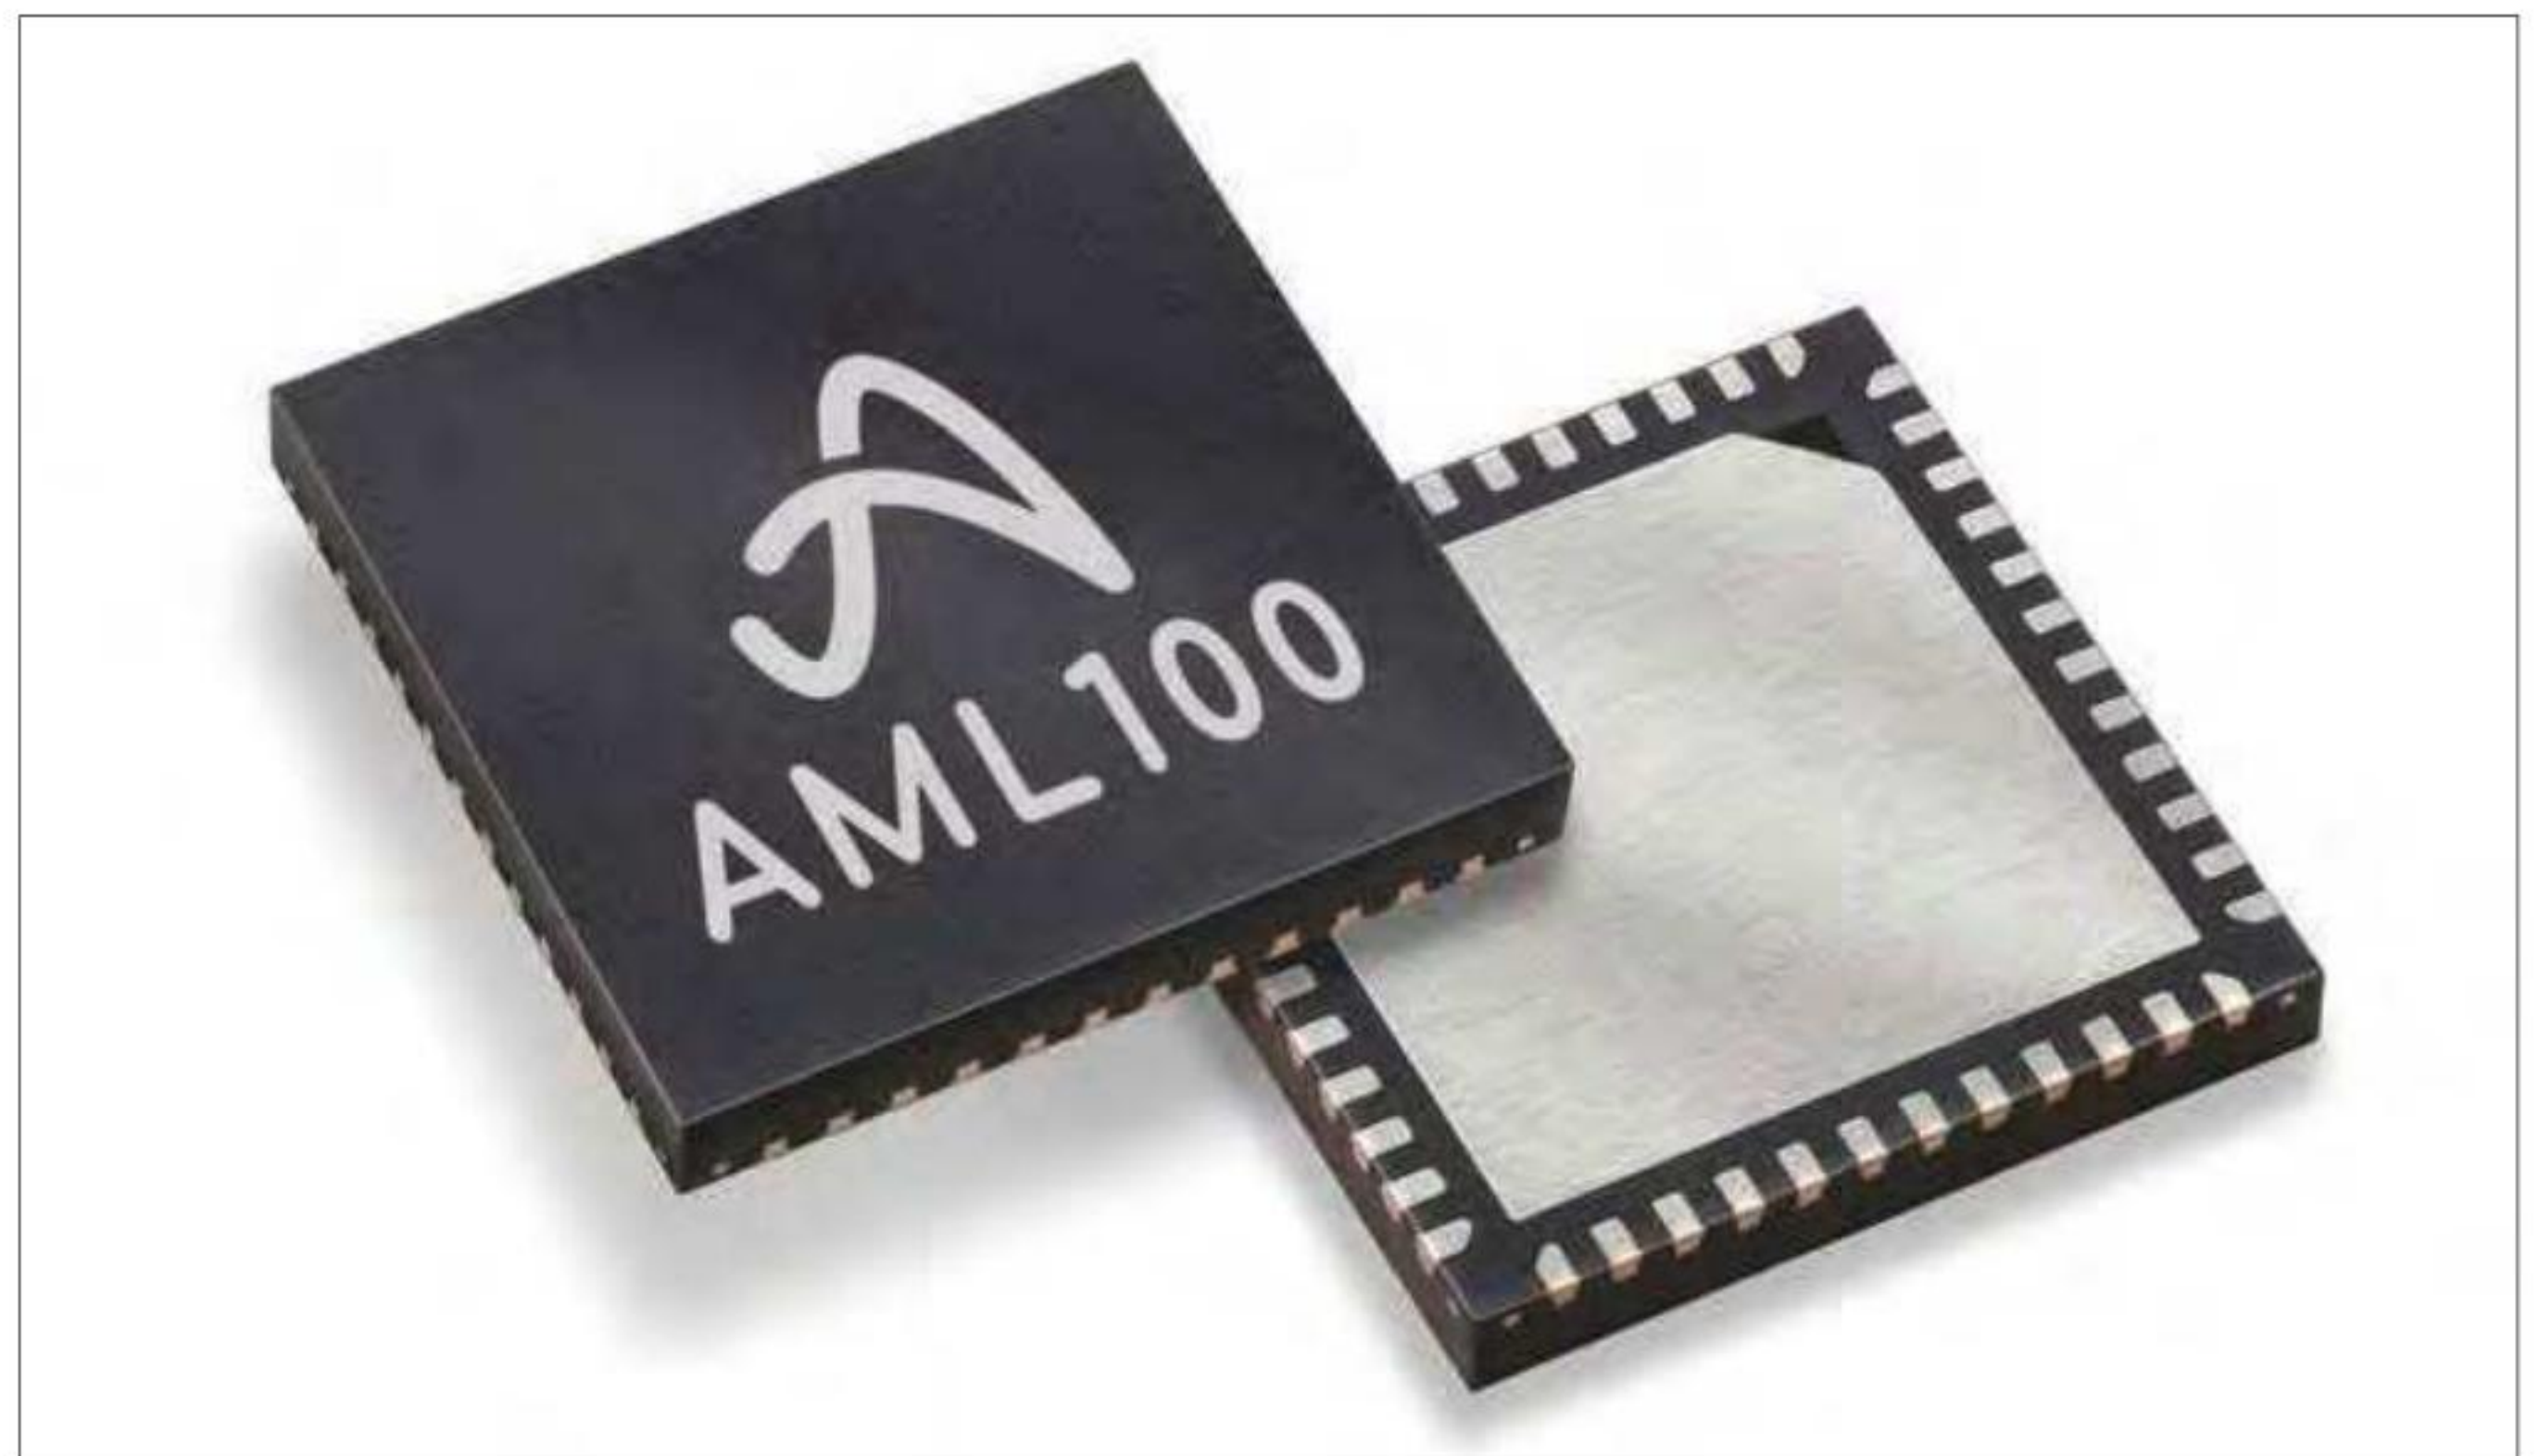

Fig.1. The purely analogue artificial neural network AML100 uses near-zero power to detect events and make inferences and conclusions (Image source: Aspinity).
and machine learning (ML) tasks are realised using digital techniques. By some strange quirk of fate, however, I've recently been seeing an increasing number of analogue implementations. For example, the guys and gals at **Aspinity.com** recently launched the first member of their AnalogML family, the AML100, which they describe as: 'The industry's first and only tiny machine learning solution operating completely within the analog domain' (Fig.1).